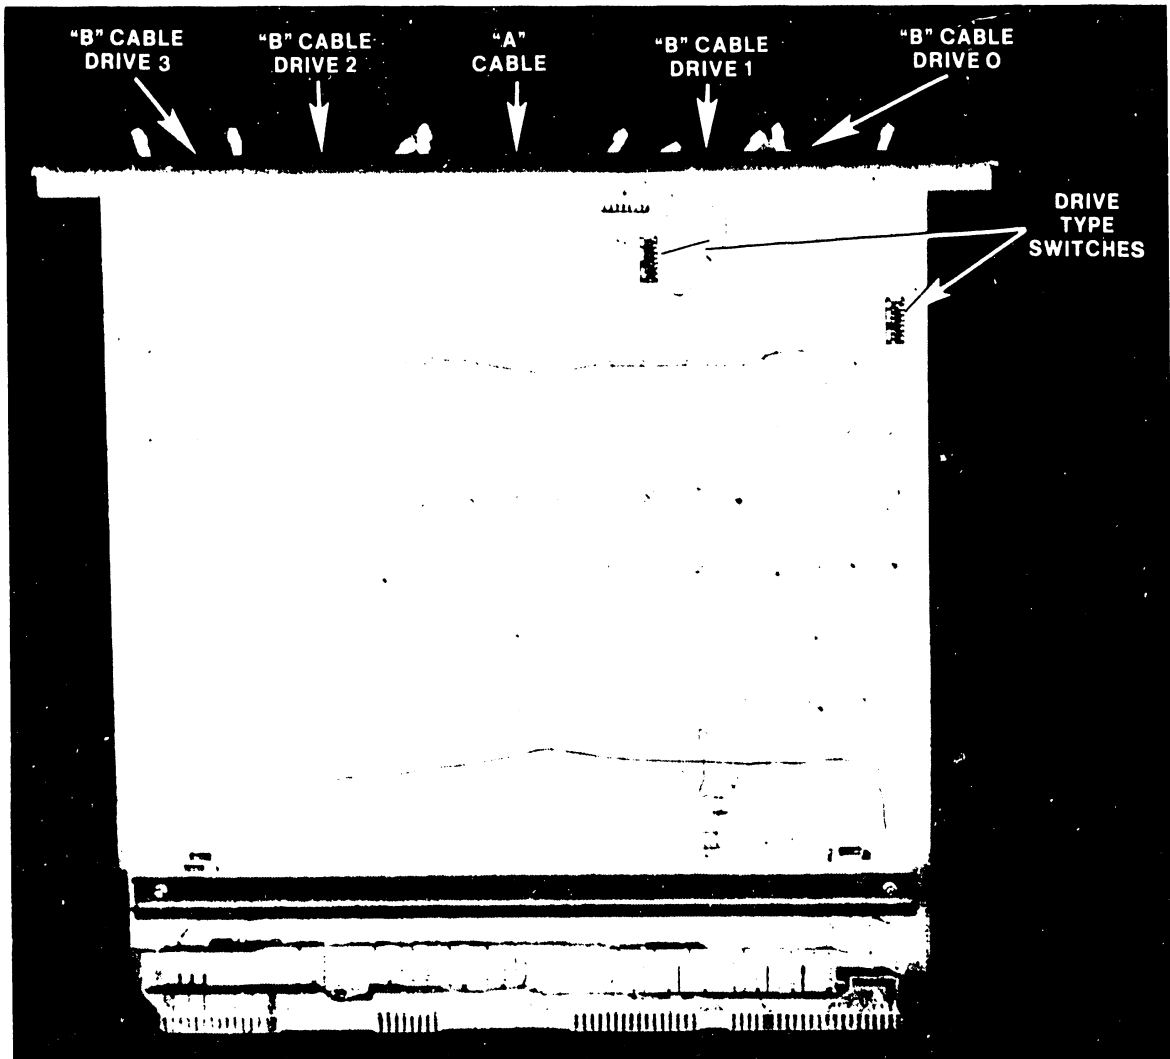

Figure 5-22. 22V28 Large Disk Drive IOP
See figure 5-22 and the appropriate documents in Class 6200 for information pertaining to IOP switch settings (except TC IOPs, figure 5-29). Make sure that the device address for each IOP is unique to that assembly.
6. Check the IOP device address switch (figure 5-22).
11. Check the IOP device address switch (figure 5-22)